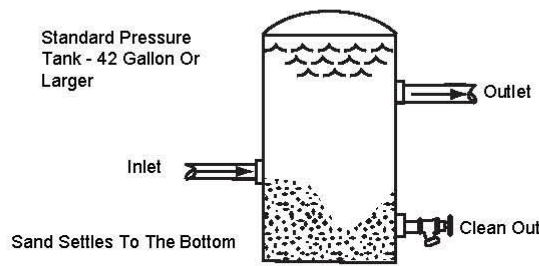

Figure 5
**NOTE:** For heavy amounts of sediment, install a trap filter on the inlet side of the pump (See Figure 5).